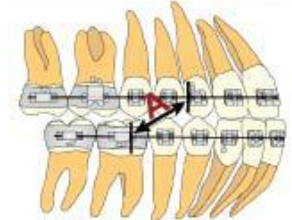

Figure 4
- Measure from the distal edge of the upper cuspid bracket to the mesial end of the lower 1st molar tube (Figure 4).
- See the chart below for measurement ranges (A) and part numbers.